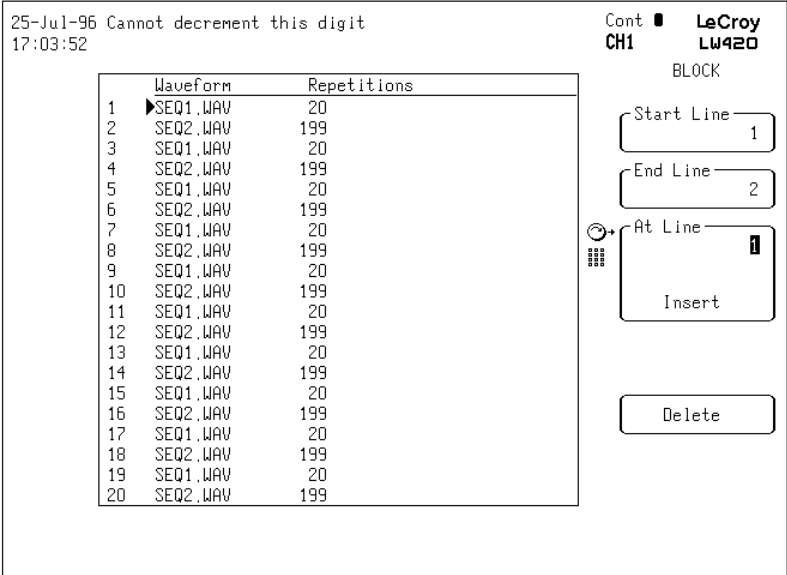

Figure 7.6
6. This pattern will be repeated a total of 24 times. Continue the entry until all 24 cycles, a total of 48 sequence editor entries, of the waveform are included, as shown in figure 7.6.